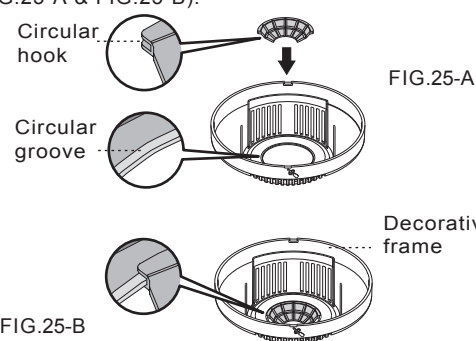

FIG.25-B
4.2.3.3 Fixing lens shield: There is a circular groove on the back of the decorative frame and the lens shield is designed with a circular hook. By coupling the hook into the groove, the lens shield is fixed (See FIG.25-A & FIG.25-B).